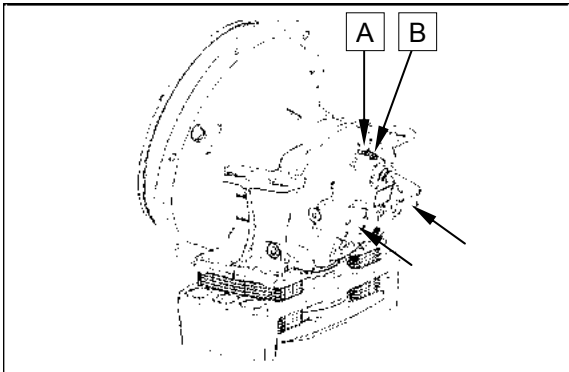

Figure 9
**Observe installation position of hydraulic motor, see figure 9!**